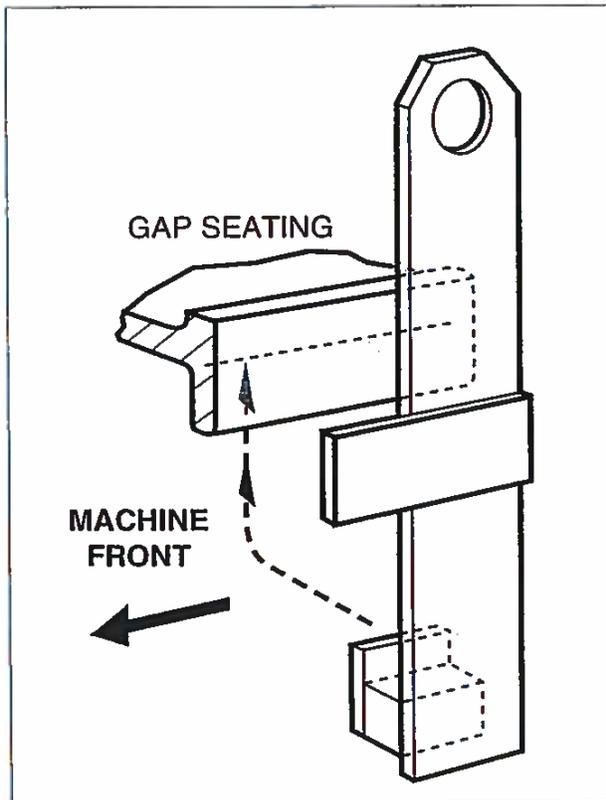

Fig. 1
1. Locate lifter assembly (Fig. 1) under the lip beneath the gap-piece location face as near to the front of the machine as possible.